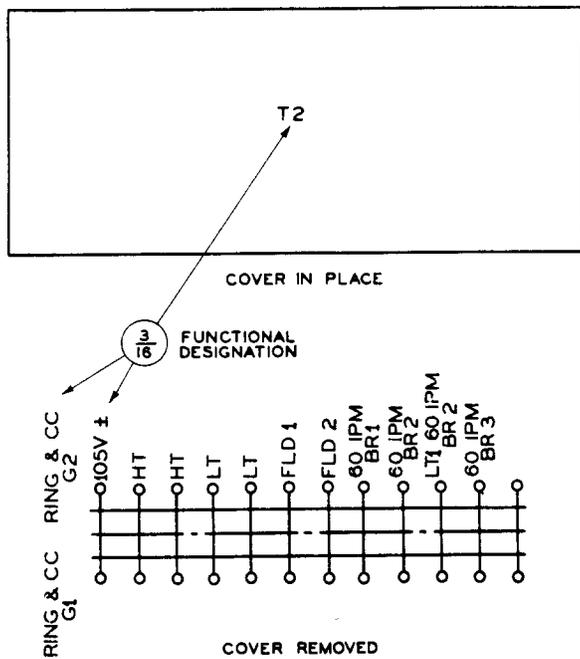

Fig. 45 - Transfer Switch for Ringing Machine
2.64 For ringing machine transfer switches, see Fig. 45. On the inside of the box, designate the circuit connection for each set of switch points.